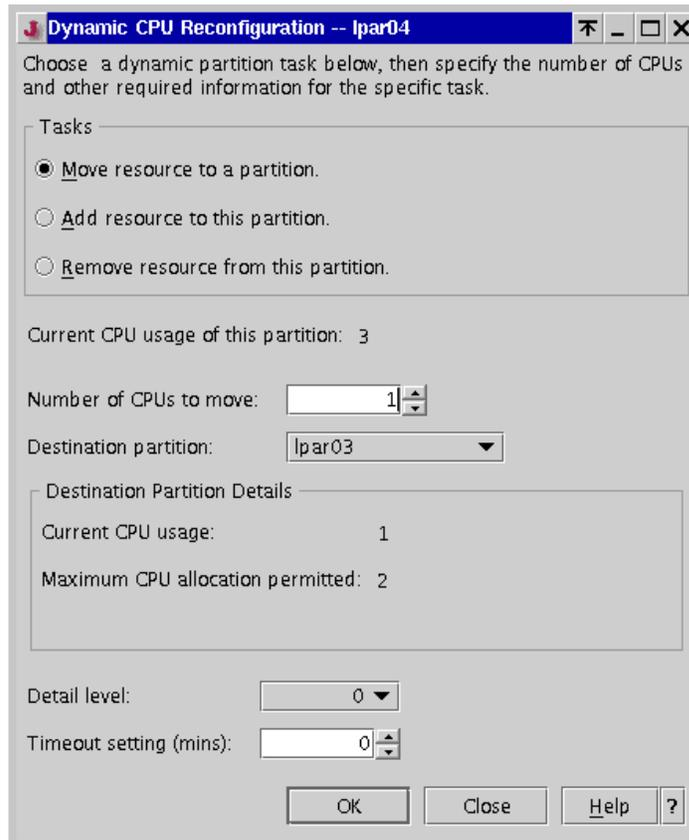

Figure 8-5 Dynamic CPU reconfiguration between partitions
- The Dynamic CPU Reconfiguration window opens. Select **Move resource to a partition**, as shown in Figure 8-5.